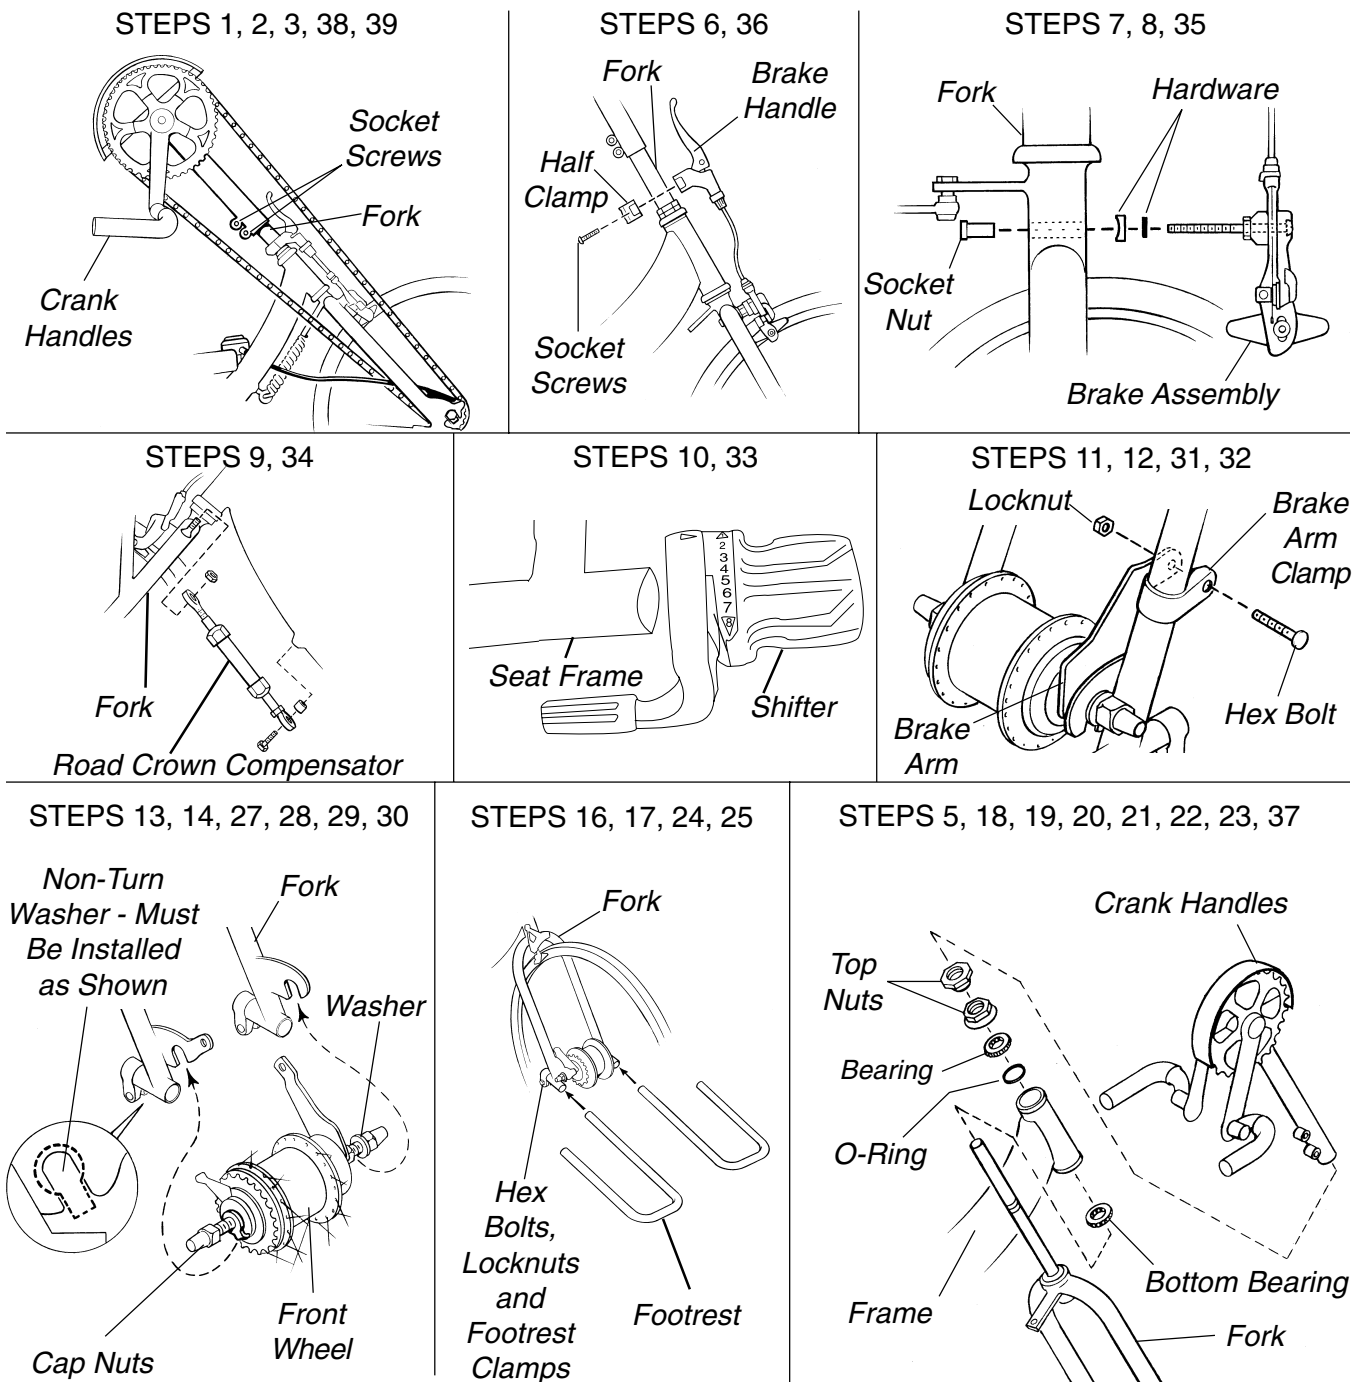

FIGURE 3 - EXCELERATOR XLT/XLT 2000 FORK/CRANK ASSEMBLY REPLACEMENT
REPLACEMENT (FIGURE 3)**
16. Remove the two (2) hex bolts, locknuts and clamps that secure the footrests to the existing fork.
18. Remove the two (2) top nuts that secure the existing fork to the frame.
20. Slide the bottom bearing onto the new fork. Refer to FIGURE 3 for correct orientation.
22. Position the o-ring and bearing on the new fork. Refer to FIGURE 3 for correct orientation.
23. Install the two (2) nuts onto the new fork and tighten securely. Refer to FIGURE 3 for correct orientation.
25. Install the footrests onto the new fork to the position noted in STEP 17 and secure with the two (2) hex bolts and locknuts.